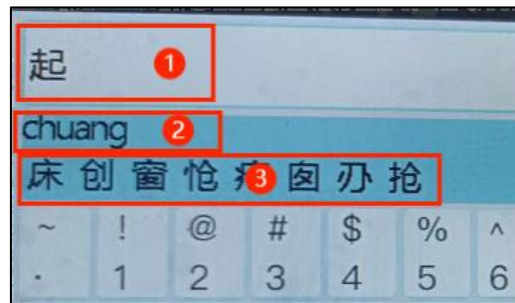

Figure 6-23: Example of PinYin Characters
- 输入文字坐标 X 和 Y** : Set the left-top coordinate of the first entered character, as ❶ shown in Figure 6-23. The reference point (0, 0) is the left-top coordinate of the keyboard page.
- 提示文字颜色** : Set the color of the prompt characters, as ❷ and ❸ shown in Figure 6-23.
和 Y : prompt character, as ② shown in Figure 6-23. The reference point (0, 0) is the left-top coordinate of the keyboard page.
汉字提示坐标 X 和 Y : Set the left-top coordinate of the Chinese prompt characters, as ③ shown in Figure 6-23. The reference point (0,0) is the left-top coordinate of the keyboard page.